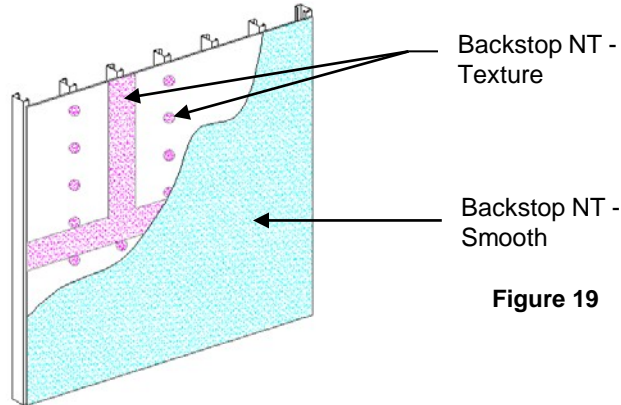

Figure 19
- 1) General: Dryvit Backstop NT - Smooth can be applied using a roller or sprayed and back-rolled over the acceptable sheathing substrates. **NOTE: OSB sheathing requires that joints and fasteners be treated with Backstop NT – Texture. Two (2) coats of Backstop NT-Smooth or Backstop NT – Spray are required for the field of the wall. Backstop NT Texture is not recommended for application in the field of the board.**
- b) Backstop NT - Smooth material should be applied in a uniform, continuous film at the recommended coverage rate – Figure 19. **NOTE: Sheathing substrates with a surface texture or high porosity will require additional material.**